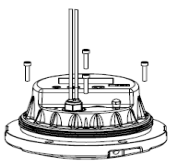

Figure 5-4
- Place the lighting fixture top downwards and dismount 4 M5×25 hexagon socket cap screws (Figure 5-4).